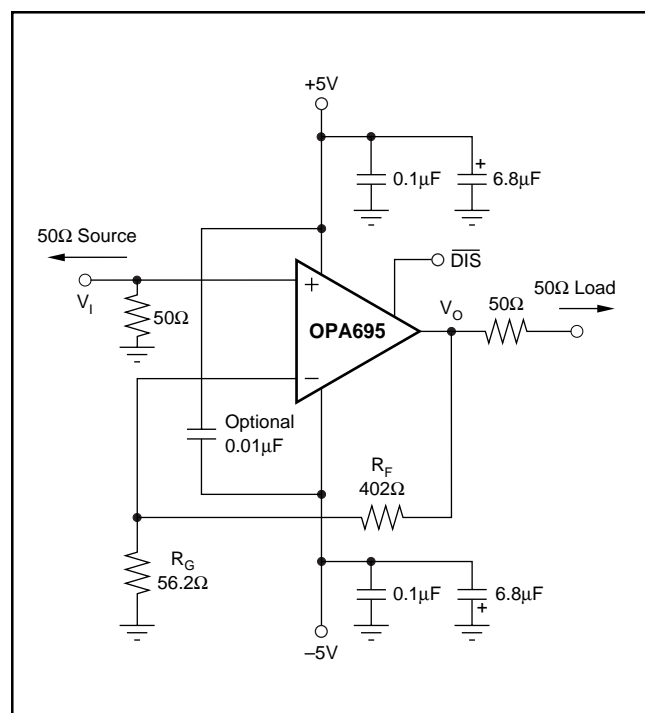
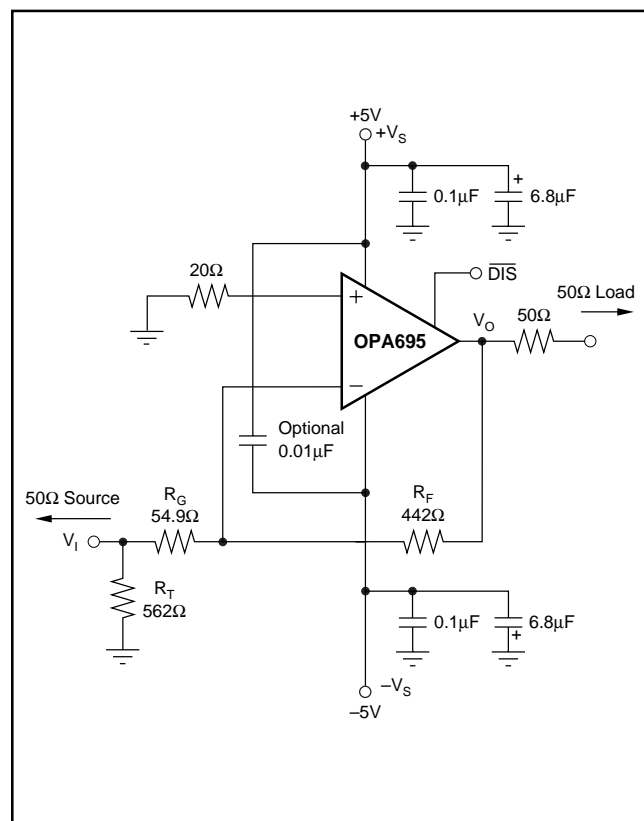
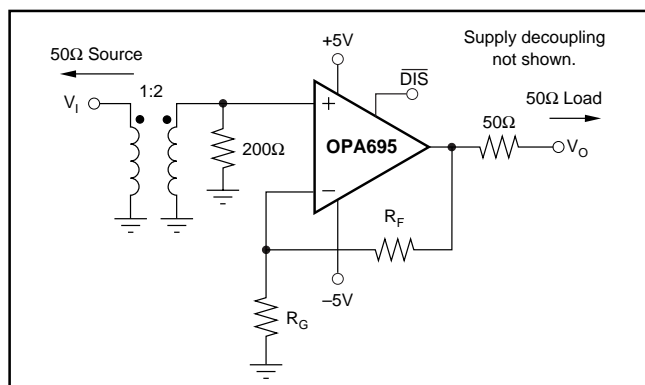

FIGURE 1. DC-Coupled,  $G = +8\text{V/V}$ , Bipolar Supply Specifications and Test Circuit.
FIGURE 2. DC-Coupled,  $G = -8\text{V/V}$ , Bipolar Supply Specifications and Test Circuit.
FIGURE 5. IF Amplifier with Improved Noise Figure.
Figure 1 shows the DC-coupled, gain of +8V/V, dual power supply circuit used as the basis of the  $\pm$ 5V Specifications and Typical Characteristic curves. For test purposes, the input impedance is set to 50 $\Omega$  with a resistor to ground and the output impedance is set to 50 $\Omega$  with a series output resistor. Voltage swings reported in the specifications are taken directly at the input and output pins while load powers (dBm) are defined at a matched 50 $\Omega$  load. For the circuit of Figure 1, the total effective load will be 100 $\Omega$  || 458 $\Omega$  = 82 $\Omega$ . The disable control line ( $\overline{\text{DIS}}$ ) is typically left open to get normal amplifier operation. The disable line must be asserted low to shut off the OPA695. One optional component is included in Figure 1. In addition to the usual power supply decoupling capacitors to ground, a 0.01 $\mu$ F capacitor is included between
Figure 2 shows the DC-coupled, gain of  $-8\text{V/V}$ , dual power supply circuit used as the basis of the Inverting Typical Characteristic curves. Inverting operation offers several performance benefits. Since there is no common mode signal across the input stage, the slew rate for inverting operation is higher and the distortion performance is slightly improved. An additional input resistor,  $R_T$ , is included in Figure 2 to set the input impedance equal to 50 $\Omega$ . The parallel combination of  $R_T$  and  $R_G$  set the input impedance. Both the non-inverting and inverting applications of Figures 1 and 2 will benefit from optimizing the feedback resistor ( $R_F$ ) value for bandwidth (see the discussion in *Setting Resistor Values to Optimize Bandwidth*). The typical design sequence is to select the  $R_F$  value for best bandwidth, set  $R_G$  for the gain, then set  $R_T$  for the desired input impedance. As the gain increases for the inverting configuration, a point will be reached where  $R_G$  will equal 50 $\Omega$ , where  $R_T$  is removed and the input match is set by  $R_G$  only. With  $R_G$  fixed to achieve an input match to 50 $\Omega$ ,  $R_F$  is simply increased, to increase gain. This will, however, quickly reduce the achievable bandwidth, as shown by the inverting gain of  $-16$  frequency response in the Typical Characteristic curves. For gains > 10V/V (14dB at the matched load), noninverting operation is recommended to maintain broader bandwidth.
The ultra-high, full-power bandwidth and 3rd-order intercept of the OPA695 may be used to good advantage in IF amplifier applications. Additional benefits to using a wideband op amp such as the OPA695 include extremely good (and independent) I/O impedance matching as well as very high reverse isolation. A designer more accustomed to using fixed-gain RF amplifiers will get almost perfect gain accuracy, much higher I/O return loss, and 3rd-order intercept points exceeding 30dBm (up to 110MHz) using only a 13mA supply current for the OPA695. Using the considerable design freedom achieved by adjusting the external resistors, the OPA695 can replace a wide range of fixed-gain RF amplifiers with a single part. To understand (in RF amplifier terms) how to take advantage of this, consider first the 4-S parameters (this will be done using the example circuits of Figures 1 and 2 on  $\pm 5V$  supplies, but similar results can be obtained on a single +5V to +12V supply).
Input return loss is a measure of how nearly (over frequency) the input impedance matches the source impedance. This is relatively independent of gain setting for both the noninverting and inverting configurations. The Typical Characteristic curves show the magnitude of  $S_{11}$  for the circuits of Figures 1 and 2 through 1GHz (noninverting gain of +8 and inverting gain of -8 operation, respectively). Noninverting operation does offer much better matching to higher frequencies, with the only deviation due to the parasitic input capacitance of the input pin. The noninverting input match is simply set by the resistor to ground on the noninverting input, since the amplifier itself shows a very high input impedance. Inverting operation is also very good, but rises more quickly due to loop gain roll-off effects appearing at the inverting node. The inverting mode input match is set by the parallel combination of  $R_G$  and  $R_T$  in Figure 2, since the inverting amplifier node may be considered a virtual ground. A good, fixed-gain, RF amplifier would have an input, Voltage Standing Wave Ratio (VSWR)  $< 1.2:1$ . This corresponds to an  $S_{11}$  of -21dB. The OPA695 exceeds this performance through 100MHz for the inverting mode of operation, and through 400MHz for the noninverting mode.
Signal gains are most often referred to as V/V in op amp data sheets. This is the voltage gain from input to output and is set by external resistor ratios. Since the output impedance is set by a physical series resistor, the voltage gain to the matched load is cut in 1/2 by this resistor divider. The log gain to the matched load for the noninverting circuit of Figure 1 is: (1)
The log gain to the matched load for the inverting circuit of Figure 2 is: (2)
The specific resistor values used in Figures 1 and 2 give both a maximally flat bandwidth and a 12dB gain to the matched load. The design tables at the end of this section summarize the required resistor values over a range of desired gains for the circuits of Figures 1 and 2.
curves. The inverting configuration holds almost constant bandwidth (with correctly selected external resistor values) until  $R_G$  reduces to equal  $50\Omega$ , and remains at that value to satisfy the input impedance matching requirement, with further increases in gain achieved by increasing  $R_F$  in Figure 2. The bandwidth then decreases rapidly as shown by the gain of  $-16V/V$  plot in the Typical Characteristic curves.
Reverse isolation is a measure of how much power injected into the output pin makes it back to the source. This is rarely specified for an op amp because it is so good. Op amps are very nearly uni-directional signal devices. Below 300MHz, the noninverting configuration of Figure 1 gives much better isolation than the inverting of Figure 2. Both are well below 40dB isolation through 350MHz.
Op amp noise figure equations include at least six terms (see the Noise Performance section), due to the external resistors. As a point of reference, the circuit of Figure 1 has an input noise figure of 14dB while the inverting configuration of Figure 2 has an input noise figure of 11dB. At higher gains, it is typical for the inverting noise figure to be slightly better than for an equivalent gain, noninverting configuration. One easy way to improve the noise figure for the noninverting configuration of the OPA695 is to include a step-up, 1:2 turns ratio transformer at the input. This configuration is shown in Figure 5.
TABLE I. Noninverting Wideband Op Amp (Figure 1).
TABLE II. Noninverting with a 1:2 Input Step-Up Transformer (Figure 5).